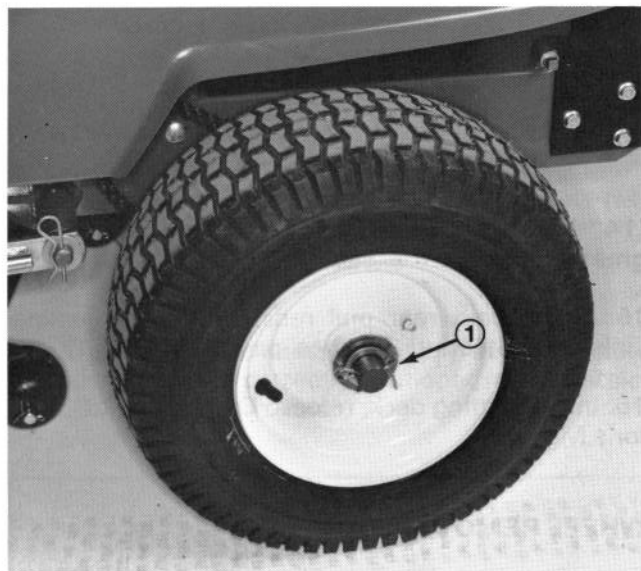

Figure 34
4. Remove the cotter pin and washer and remove the wheel from the axle (Fig. 34).